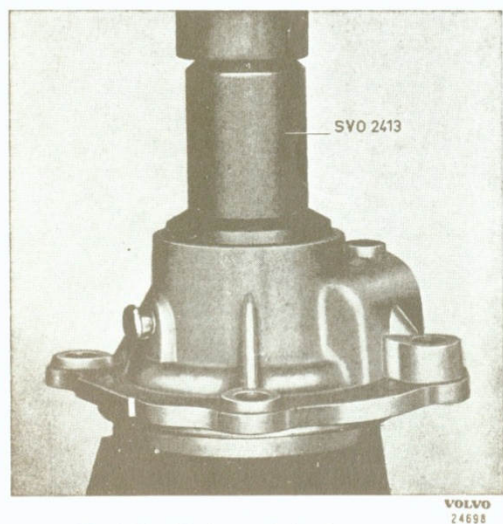

Fig. 3-23. Fitting seal ring in rear cover
Place the speedometer gear (11) on the bearing in the rear cover. Press in the sealing ring (18) with drift SVO 2413, see Fig. 3-23.